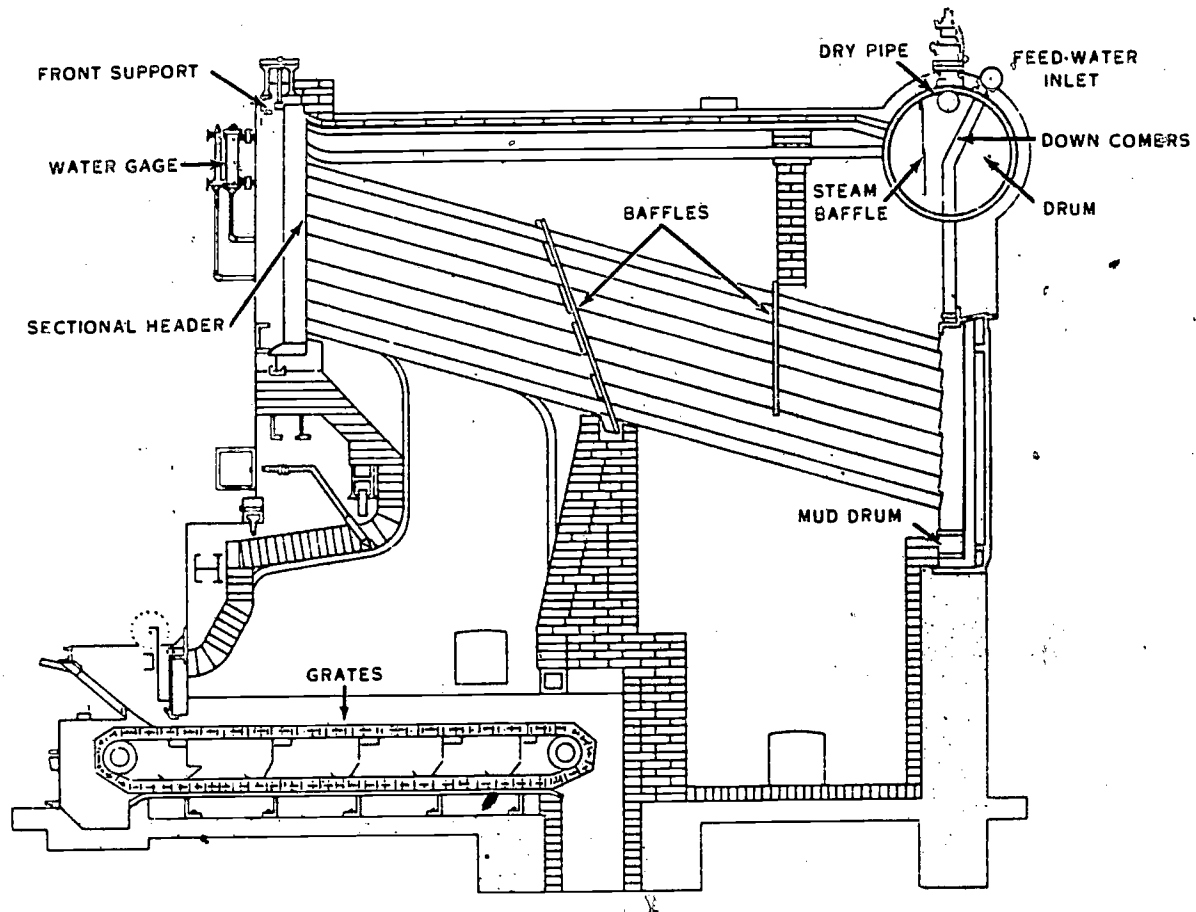

Figure 35. A typical sectional cross-header boiler.
31. The first type, shown in figure 35, is a sectional-header cross-drum boiler that has vertical headers. The headers are steel boxes into which the tubes are connected. Feed water enters the drum and passes down through the pipes (down-comers) into the rear sectional-headers from which the water tubes are supplied. As the water is heated, some of it changes into steam and flows through the tubes to the front headers. The steam-water mixture then returns to the steam-drum through the circulating tubes and is discharged in front of the steam-drum baffle. This baffle helps to separate the water from the steam. The steam is released from the top of the drum through the dry pipe. This pipe extends along the length of the drum, and has holes or slots in the top half through which the steam enters. This helps to prevent water from being carried into the steam lines.
32. Headers are distinguishing features of the sectional-header cross-drum boiler. They are usually made of forged steel and are connected to the drums by the tubes. The headers are connected at right angles to the tubes, as shown in figure 35. The tubes are rolled and flared into each header. A handhole is located opposite both ends of each tube to facilitate inspecting and cleaning. A mud drum is connected, by short nipples, to the bottom of each rear header. Its purpose is to collect sediment, which is removed by blowing down the boiler. Baffles are usually arranged so that the gases are directed across the tubes at least three times before they are discharged from the boiler below the drum.